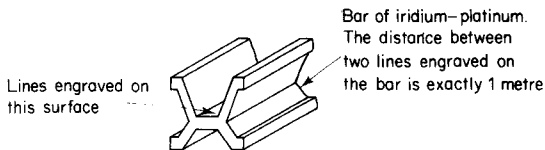

Fig. 4.1 The International Prototype Metre
**Standards of length.** Before anything can be measured a standard must be fixed. The standard of length in the SI system of units is the International Prototype Metres (Fig. 4.1) which is kept at Sèvres, near Paris. The standard metre is the distance between two fine lines engraved on one surface of the metal.